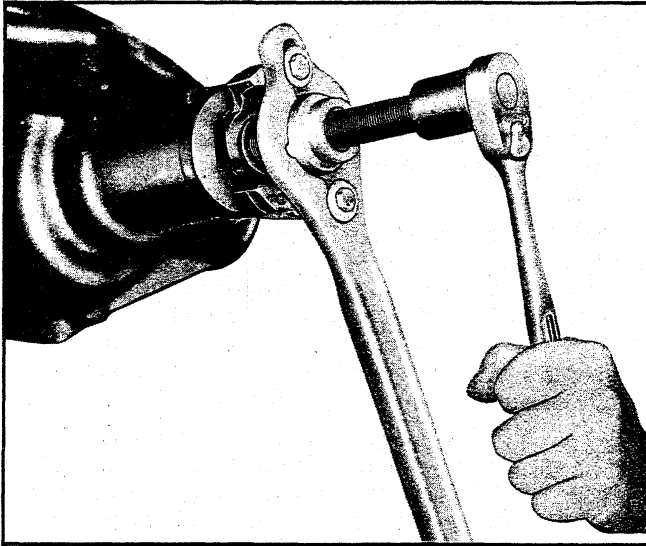

Fig. 84—Drive Pinion Flange Removal
6. Thread pilot end of Tool J-8614-3 into small O.D. end of J-8614-2. Then with J-8614-1 installed as in Step 4, insert J-8614-2 into J-8614-1 and turn it 45 degrees to locked position. Remove flange by turning J-8614-3 while holding J-8614-1 (fig. 84).